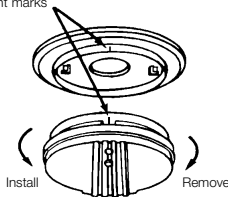

FIGURE 4.
6. If you have finished all the WIRING AND TRIM RING MOUNTING STEPS, you can install the alarm on the trim ring. Alignment marks are provided on the side of the alarm and on the trim ring (see Figure 4).
7. Install the alarm on the trim ring with the indicating marks aligned and rotate the alarm in the direction of the "ON" arrow on the cover until the alarm snaps in place (see Figure 4).
You can remove the alarm from the trim ring by rotating the alarm in the direction of the "OFF" arrow on the cover (See Section 3, Figure 4).